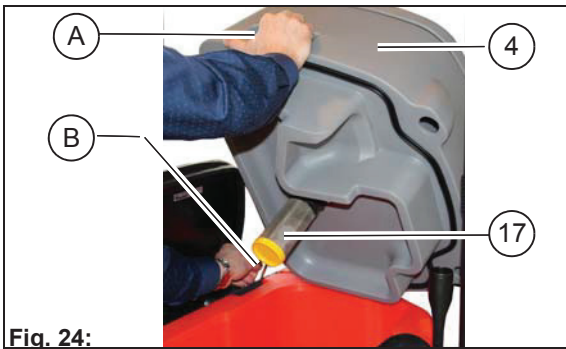

Fig. 24:
- Put one hand in the recessed grip **Fig. 24-A** of the tank cap.
- Open the tank cap until the support **Fig. 24-B** engages.
- Put one hand into the recessed grip **Fig. 24-A** and open the tank cap a little further.
- Unlock the support **Fig. 24-B** with your left hand and close the tank cap.